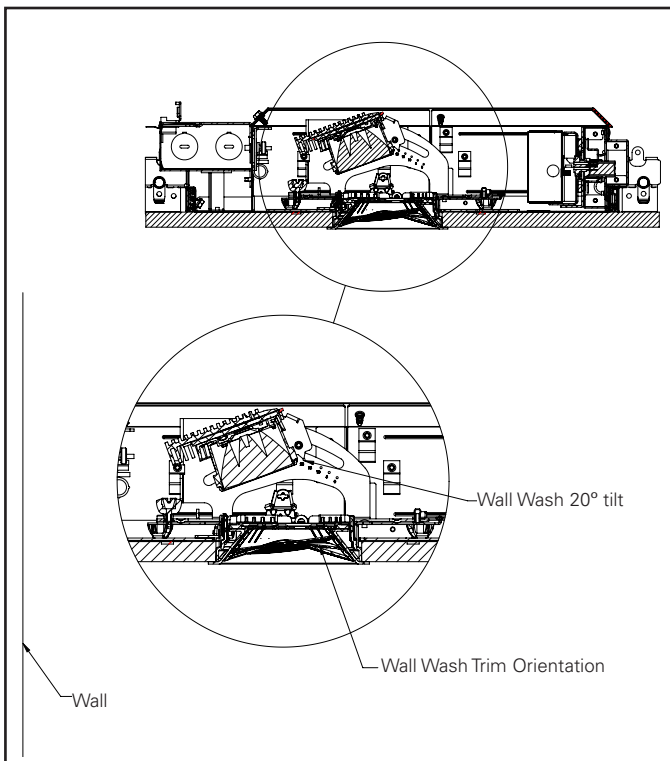

Figure 21.
For wall wash trims, the optimal condition is 15-degrees tilt angle and 70-degree optic, and for double wall wash title angle should be 0-degree (Figure 21).
7. If using a wall wash trim or adjustable trim, the angle of the trim lens should align with the direction and angle of the mechanism head (Figure 21).